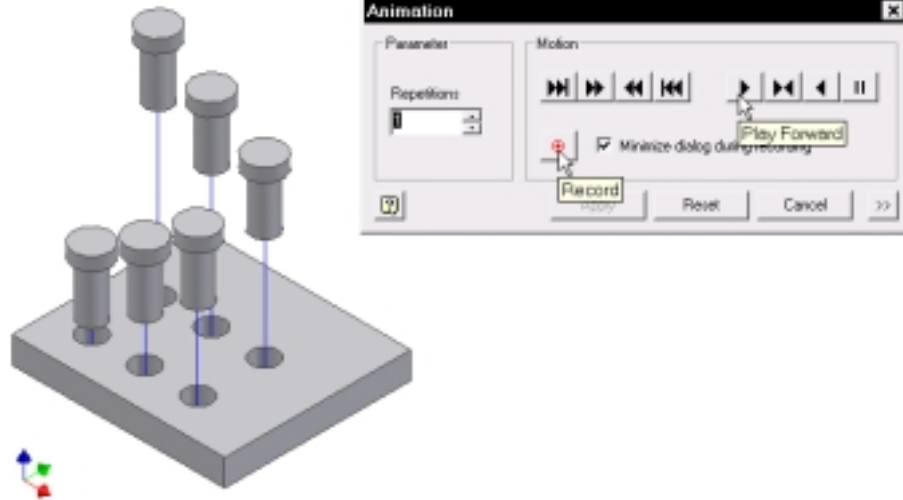

Figure 3-58
5. Select Animate from the Presentation panel or toolbar. (See Figure 3-58.)